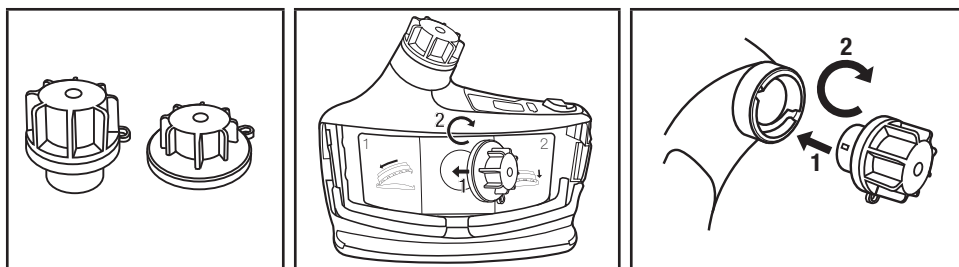

Fig. 15 – Attaching motor/blower cleaning and storage covers
- If additional cleaning is required, remove the filter/cartridge and breathing tube. To minimize material falling onto the motor/blower, remove the breathing tube (Fig. 11) and filter/cartridge (Fig. 6) while it is facing downward. Remove the battery. Attach the air inlet and air outlet cleaning and storage plugs (3M™ Cleaning and Storage Kit TR-653) into the TR-800 (see Fig. 15). The TR-800 can now be rinsed under running water, immersed, or put in a respirator washer for further cleaning. Water temperature should not exceed 122°F (50°C). The plug gaskets should be inspected for damage and wear prior to each use. Worn or damaged gaskets must be replaced. Washing the TR-800 while using damaged plug gaskets may cause damage to the TR-800 and void the warranty. Blowers which have been dropped or damaged should not be immersed or put into a respirator washer due to potential water ingress. Gaskets should be replaced every 30 uses or yearly, whichever comes first, to minimize use of worn gaskets.